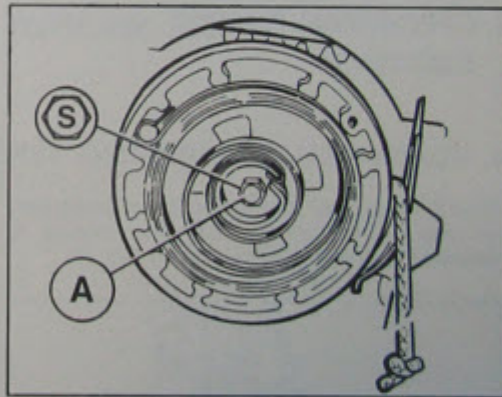
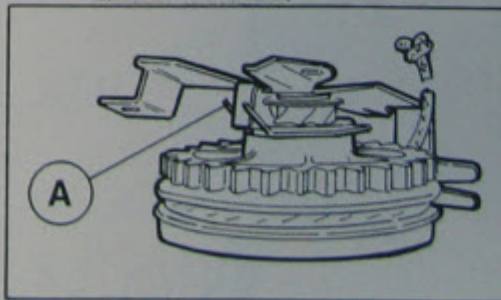

Fig. 30 Starter assy fixing screw (A)
Fig. 31 Bracket pin location
Wind the rope onto the pulley and fit the gear and pulley assy onto the bracket pin (11). Secure the assy with screw (3) (Fig. 30). Fit new brake spring (10) in its seat (Fig. 31) being careful to fit the side extension of the spring on its seat. Refit the spring cover and secure with its two screws.